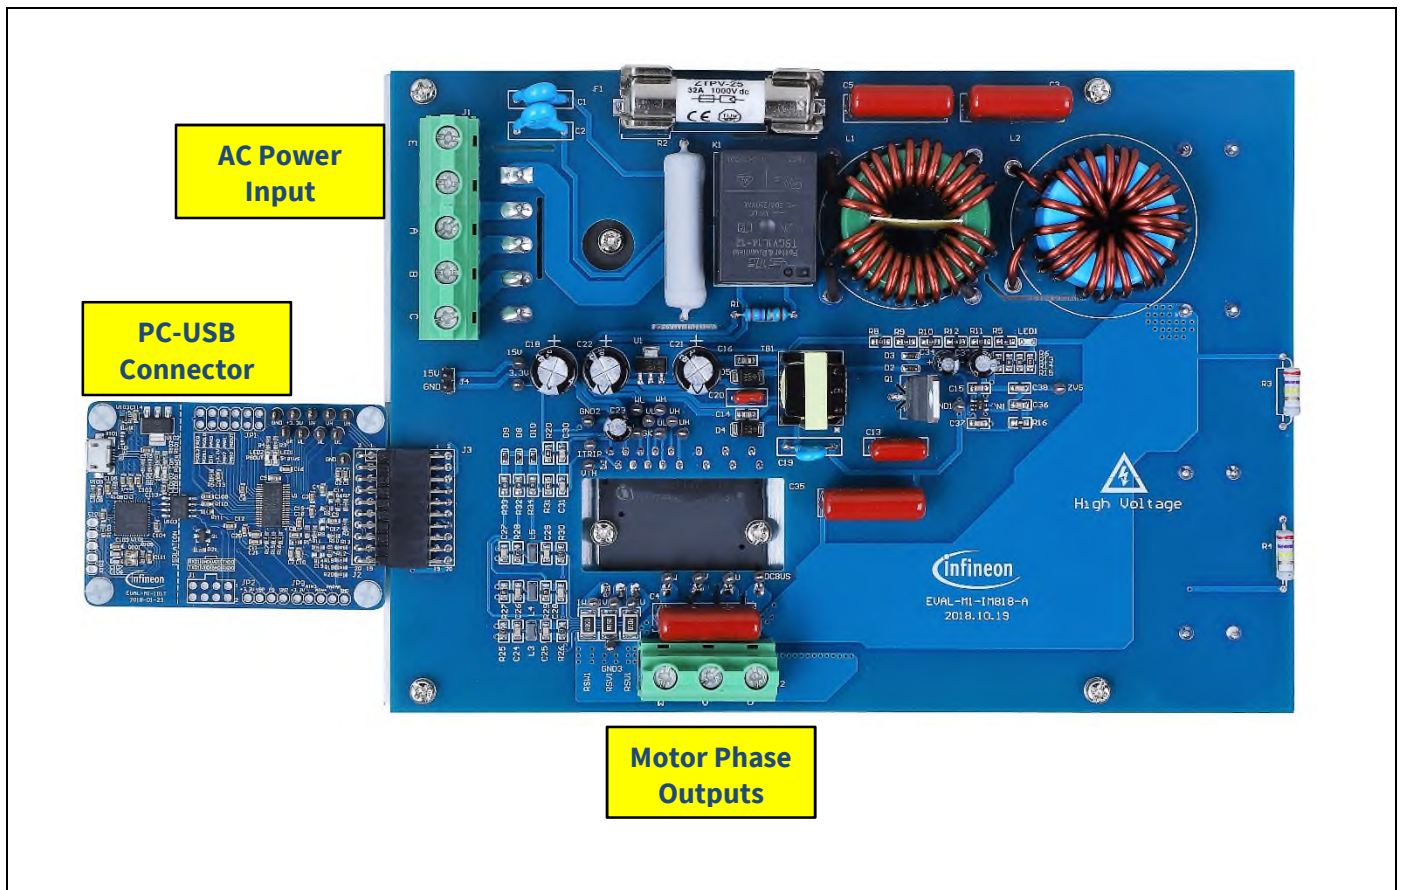

Figure 3 System connection example using EVAL-M1-IM818-A and EVAL-M1-101T
Figure 3 shows the system connection using EVAL-M1-IM818-A and control board (used control board EVAL-M1-101T for example).
2. Connect EVAL-M1-IM818-A's MADK M1 20-pin interface connector (J3) to control board (see Figure 3).